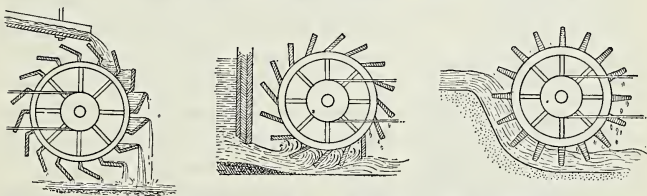

Fig. 70. How the old-time water wheels worked. The overshot, undershot, and breast wheels.
**Water wheels.** Have you ever played around a quaint old water wheel in a brook? Have you ever gazed in wonder and perhaps bewilderment at the giant machinery of the power plant of a great modern dam? The early settlers set up their mills to grind their corn beside many a little stream in our eastern country. They led the water to the mill and dropped it upon the wheel or led the water under the wheel to turn it (Fig. 70). The mill wheels turned the machinery directly. Modern hydroelectric plants change the energy of falling water into electrical energy, which is more easily controlled and can be transmitted long distances across country to cities and factories.